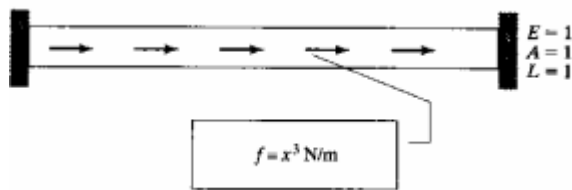

Fig. 6
6. a) A rod shown in fig. 6 is fixed at its ends is subjected to a varying body force as shown. use the rayleigh-ritz method with an assumed displacement field $u = a_1 + a_2 \cdot x + a_3 \cdot x^2 + a_4 \cdot x^3$ to determine the displacement $u(x)$ and stress σ_x .